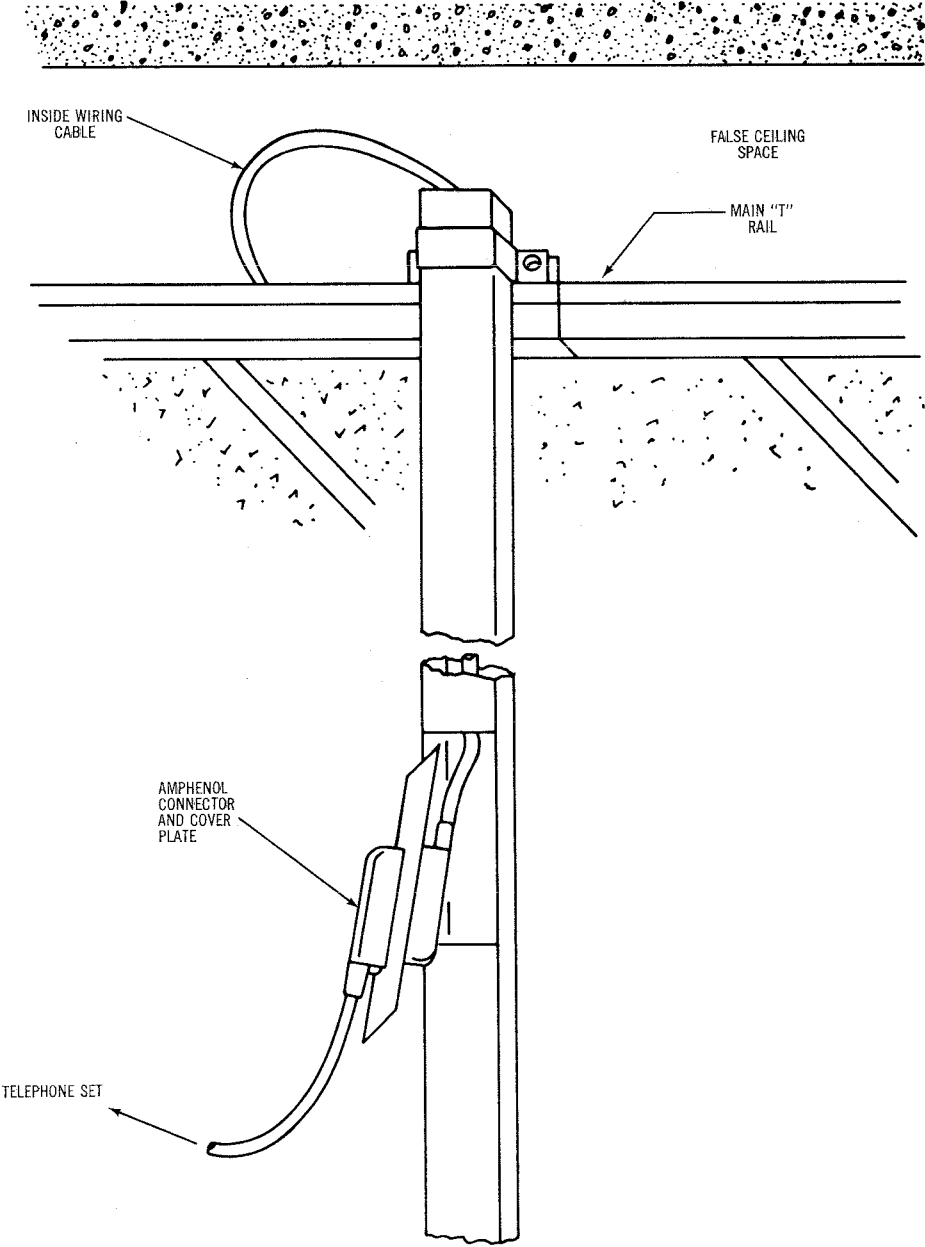

Fig. 14 — Utility Column Installation
11.04 The utility columns should be attached, or supported, by the main "T" rails in the ceiling as shown in Fig. 14.